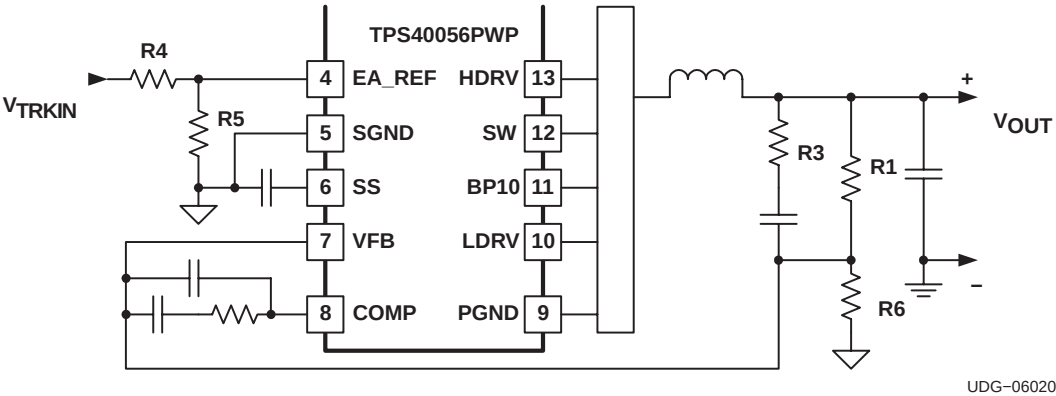

Figure 1. Tracking Configuration, V_{OUT} Tracks V_{TRKIN}
Setting the output, V_{OUT} to track another voltage, V_{TRKIN}, is simply a matter of selecting the proper voltage divider(s) R4,R5,R1 and R6 as shown in Figure 1. The voltage on the EA_REF input should be in the range of 0.2 V to 2.5 V. If the output voltage is less than 2.5 V, resistor R6 can be omitted. For example in the DDR case, if the voltage V_{TRKIN} ramps up to 2.5 V and it is desired to have V_{OUT} to track it and come up to 1.25 V, set R4=R5 and omit R6. In general, the output voltage, V_{OUT}, in terms of V_{TRKIN} and the two voltage dividers is shown in Equation (2).